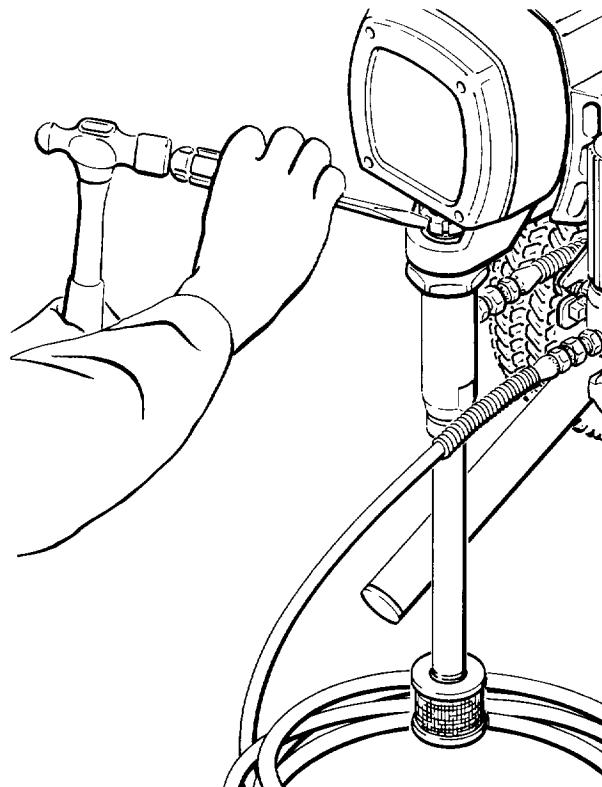

Fig 7
1. Check the packing nut/wet-cup daily. First follow the **Pressure Relief Procedure** on page 10. Be sure the wet-cup is 1/3 full of TSL at all times to help prevent fluid buildup on the piston rod and premature wear of packings. The packing nut should be tight enough to stop leakage, but no tighter. Overtightening may cause binding and excessive packing wear. Use a screwdriver and light hammer to adjust the nut. See Fig 7.